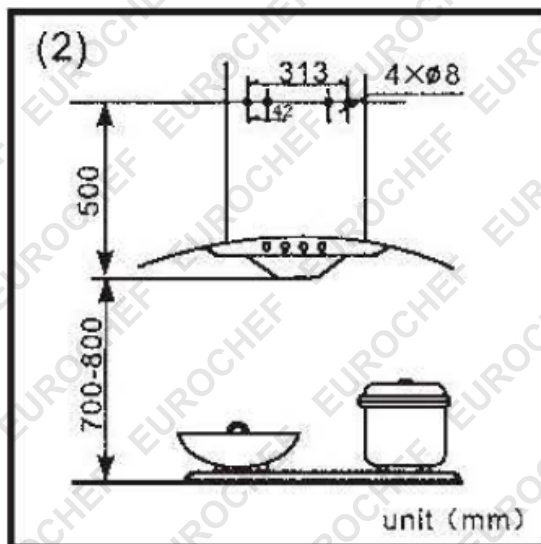

Figure 1
1. Refer to *Figure 1*. Using a pencil or other erasable marker, lightly mark out the vertical centre line of where the range hood is to be installed – this is generally central to the cooktop. Then, mark a horizontal line that is to be where the bottom of the range hood will be. Ensure that the line is level.
6. Refer to *Figure 1*. Make a 180mm diameter hole for the ducting in the ceiling at approximately 150mm out from the wall and 100mm either side of the range hood centre-line. The hole positions are not critical as long as they will be fully shrouded by the flue (flue dimensions are approximately 420mm wide and 300mm deep). The vent holes can also be made in the wall instead of the ceiling.